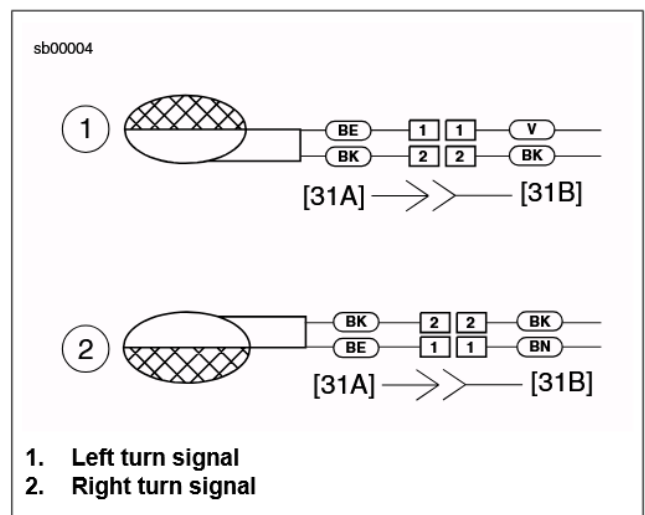

Figure 5. Front Turn Signal Connections
- b. Align guide on turn signal with the hole on the fairing. Install lockwasher and nut (4). Tighten to 25-28 **in-lbs** (2.8-3.2 Nm).
- c. See Figure 5. Connect turn signal bullet connectors as shown. Use cable straps from the kit to secure the bullet connectors to the wire harness on each side of the vehicle.